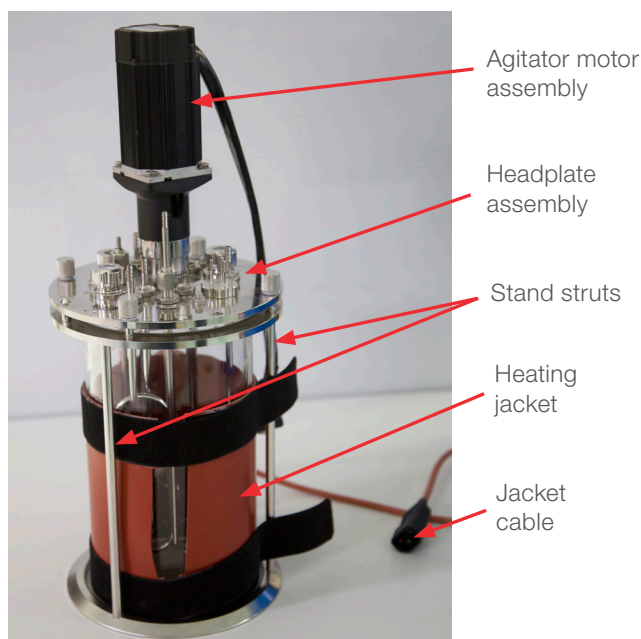

Figure 1. Assembled Glass Bioreactor.
1. Using both hands, carefully place the glass vessel into the stand (Figure 1). Ensure that the glass vessel is centered properly.
5. Replace the heating jacket (Figure 1) and ensure it is held in place with hook and loop fastener (Velcro™) straps. **Note:** Both the jacket and the straps **MUST** be under the stand struts (Figure 1) in order to ensure full contact of the jacket on the glass vessel wall.
6. Replace the agitator motor assembly. Place the agitator motor assembly onto the agitator bearing housing so that it is fully seated on the headplate (Figure 1).
7. Connect the jacket cable (Figure 1) to the corresponding connector of the controller.
1. While supporting the vessel with one hand, pull up on the agitator motor assembly (Figure 1) to remove. Set the motor assembly aside, as it **MUST NOT** be washed.
2. Uncouple the jacket cable (Figure 1). Loosen the hook and loop fastener (Velcro) straps on the heating jacket (Figure 1) and remove. Set the heating jacket aside, as it **MUST NOT** be washed.